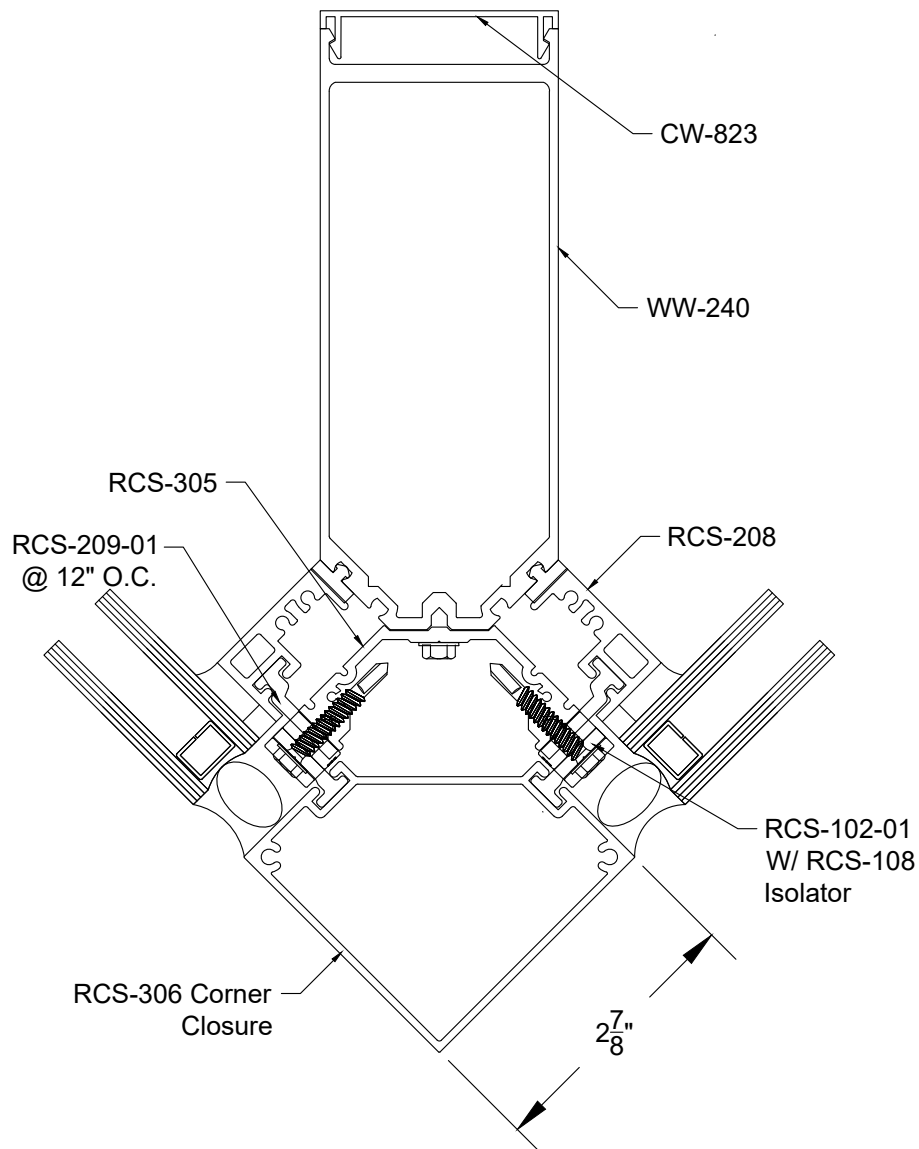

**FIGURE 49**
- 3.36 Glaze upper lite above and secure using RCS-209-01 cassette clips using FS-325 fasteners and locate at 12" on center. **FIGURE 49**